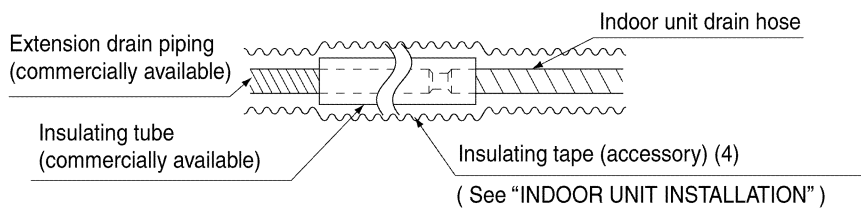

Fig. 17
- When extending the drain hose, use a commercially available drain extension hose, and be sure to insulate the extended section of the drain hose which is indoors. (Refer to Fig. 17)